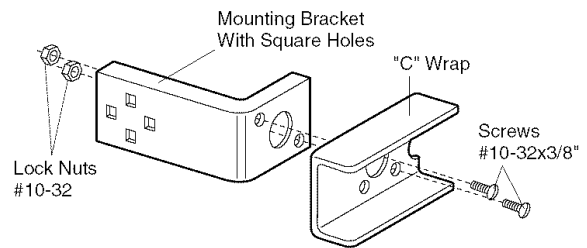

Figure 2
2. Connect each assembly to a slotted bracket, using the hardware shown on Figure 2. **Note alignment of brackets for left and right sides of door.**
4. Use bracket mounting holes as a template to locate and drill (2) 3/16" diameter pilot holes on both sides of the garage door, 4"-6" above the floor **but not exceeding 6"** (see warning on page 20).
5. Attach bracket assembly with 1/4"x1-1/2" lag screws as shown in Figure 2.